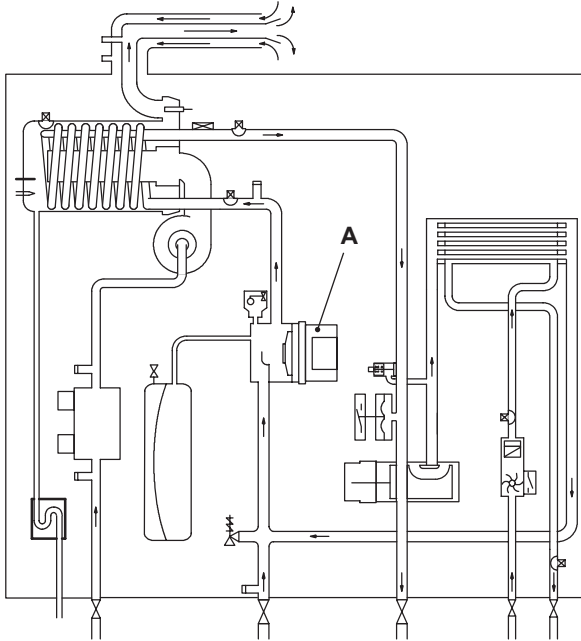
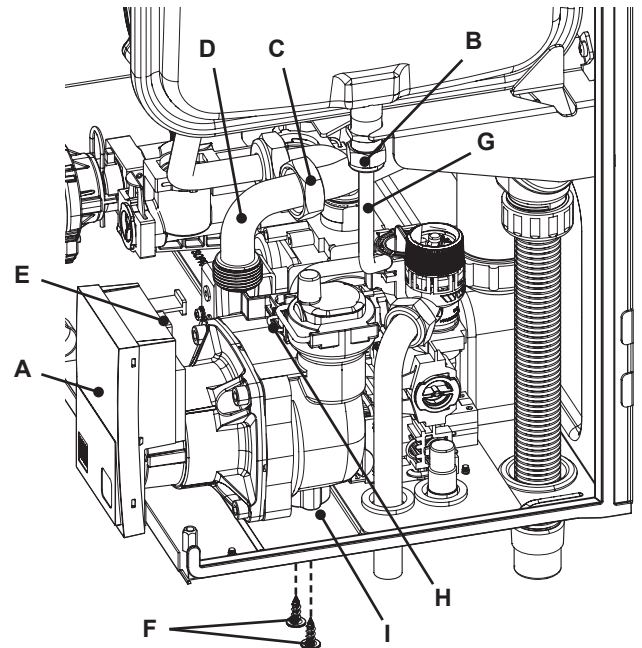

Figure 7.1
Figure 7.2
The pump A in Figure 7.1 and Figure 7.2 has the function of making the water in the main circuit circulate through the main condensing heat exchanger and therefore through the c.h. system (during the c.h. function) or through the secondary heat exchanger (during the d.h.w. function).
- 3 Disconnect the connector E (Figure 7.2).